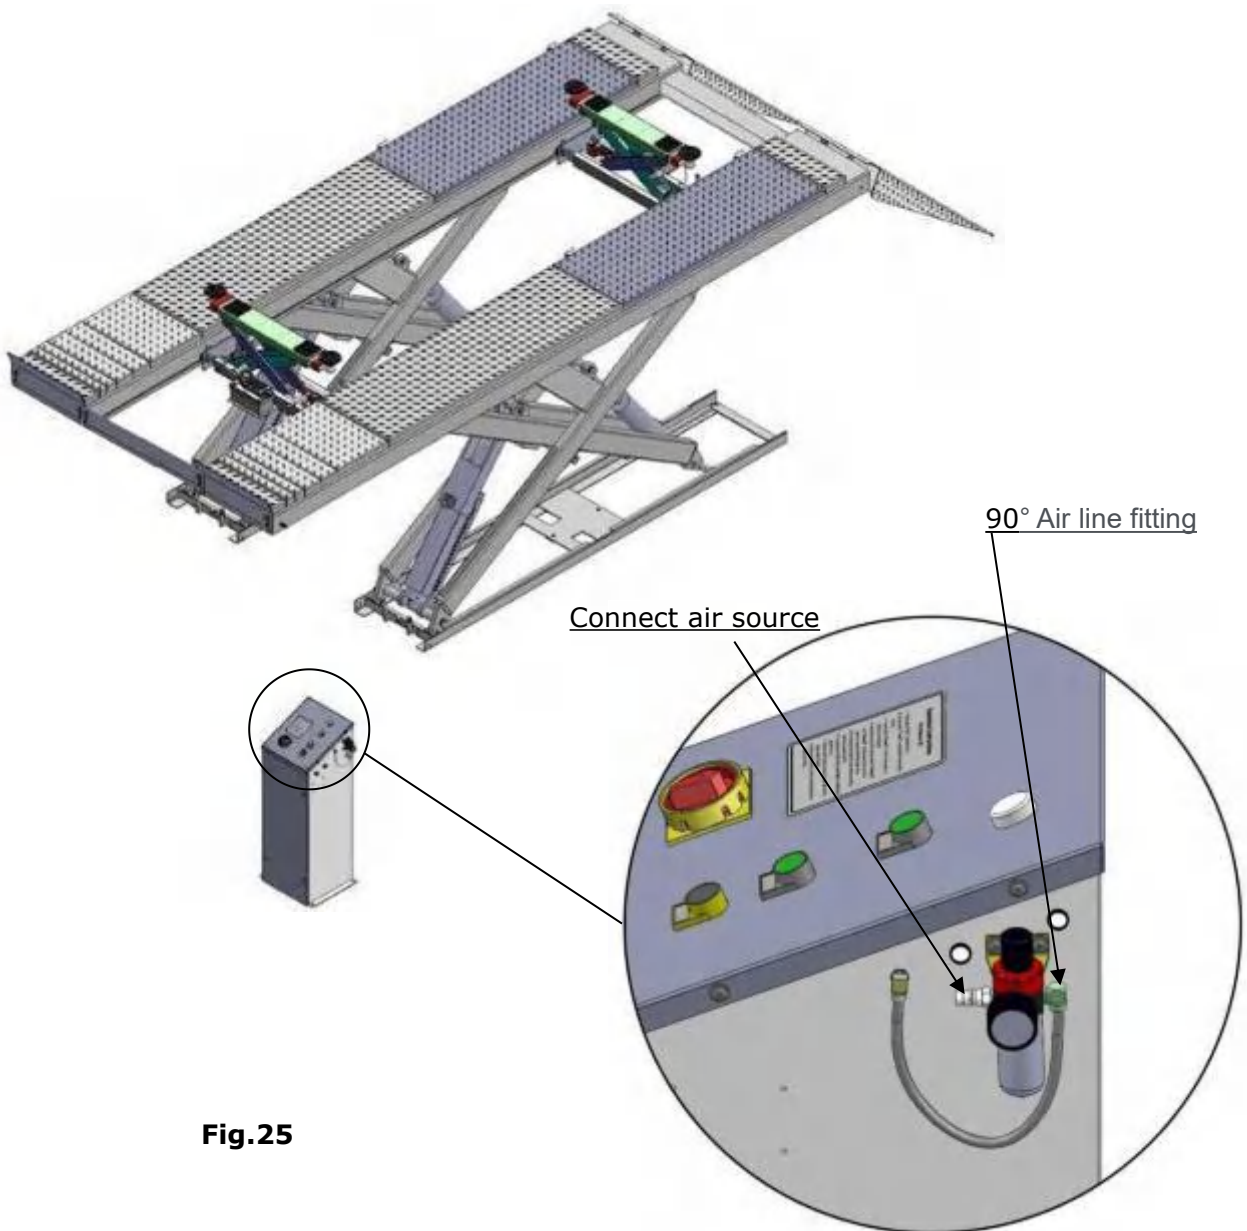

Fig.25
H. Installation of optional Air line kits (see fig. 25)